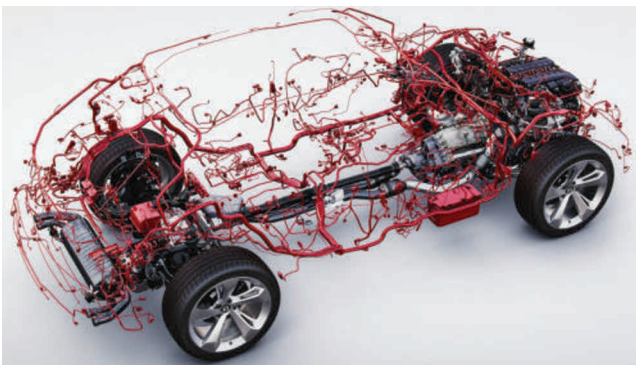

Figure 2.16 Bentley wiring harness.
- If the ABS warning light stays on – look to see if the wheel speed sensor(s) are covered in mud or oil (Figure 2.16).